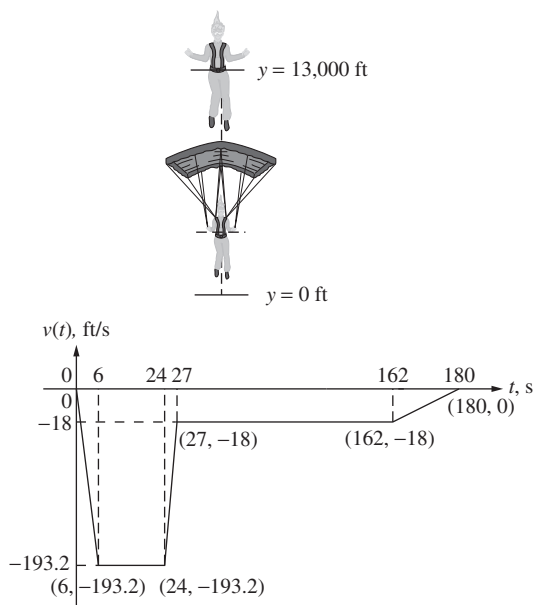

Figure P8.38 Velocity of a skydiver jumping from a height of 13,000 ft.
8-38. The velocity of a skydiver jumping from a height of 13,000 ft is shown in Fig. P8.38.
- (a) Find the equation of the velocity $v(t)$ for the five time intervals shown in Fig. P8.38.